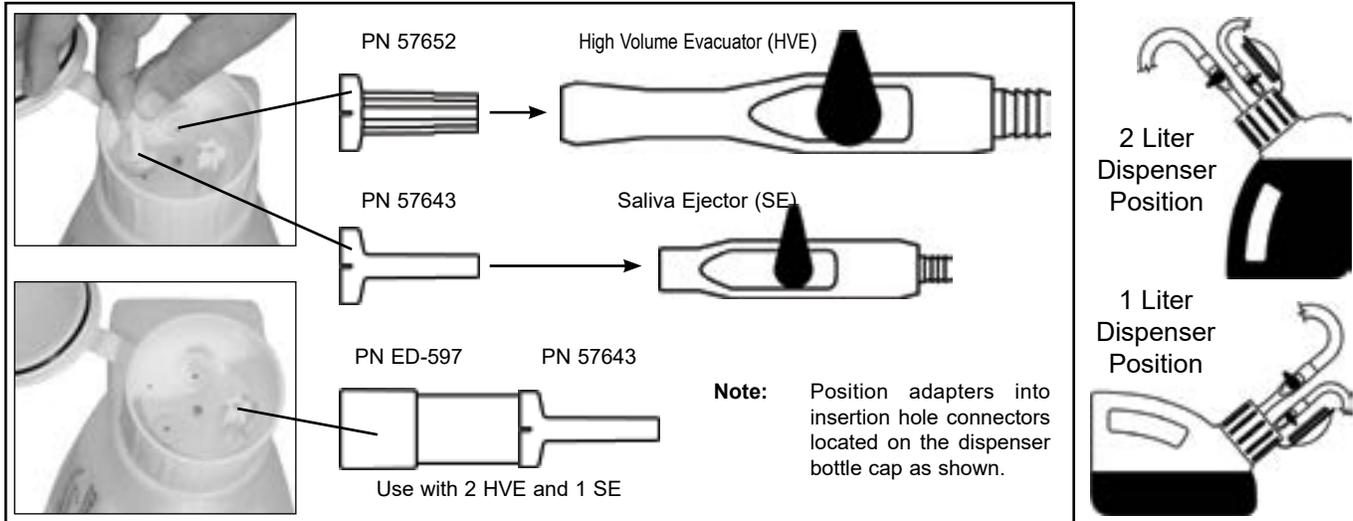

Figure 16. Clean Stream Dispenser Cap Adaptor Locations
3. As shown by Figure 16, the interior of the Clean Stream dispenser bottle cap is configured with three holes for the insertion of HVEs and SEs via provided adapters as follows.
4. Refer to Figure 16 and place dispenser in the 2-liter vertical position or the 1-liter horizontal position as necessary.